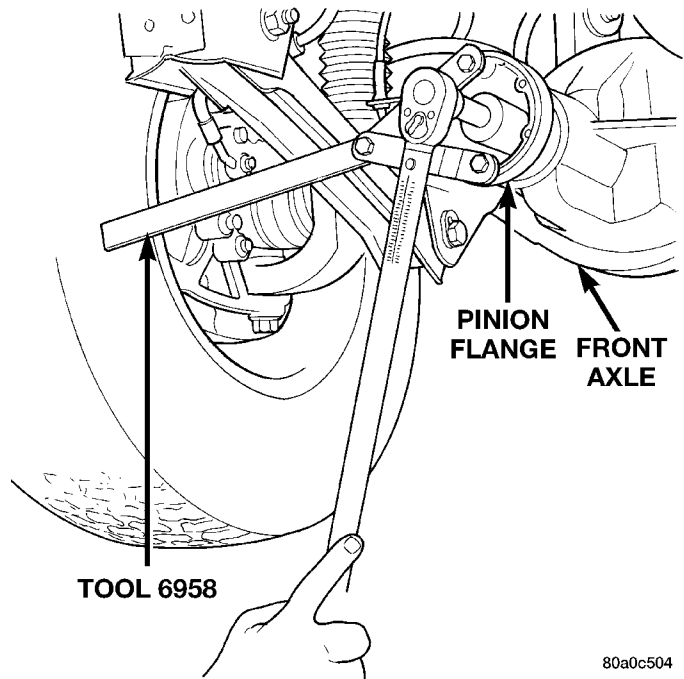

Fig. 15 Tightening Pinion Shaft Nut
(5) If the rotating torque is low, use Holder 6958 to hold the pinion yoke (Fig. 15), and tighten the pinion shaft nut in 6.8 N·m (5 ft. lbs.) increments until proper rotating torque is achieved.